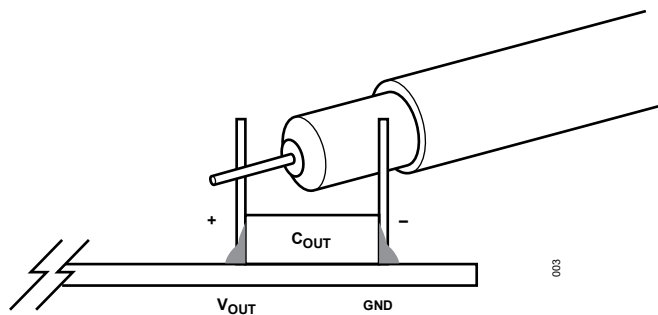

Figure 3. Measuring Output Ripple Voltage
**Note:** When measuring the output or the input voltage ripple, do not use the long ground lead on the oscilloscope probe. See Figure 3 for the proper scope probe technique. Short, stiff leads may be soldered to an output capacitor's (+) and (-) terminals. The probe's ground ring needs to touch the (-) lead, and the probe tip needs to touch the (+) lead.